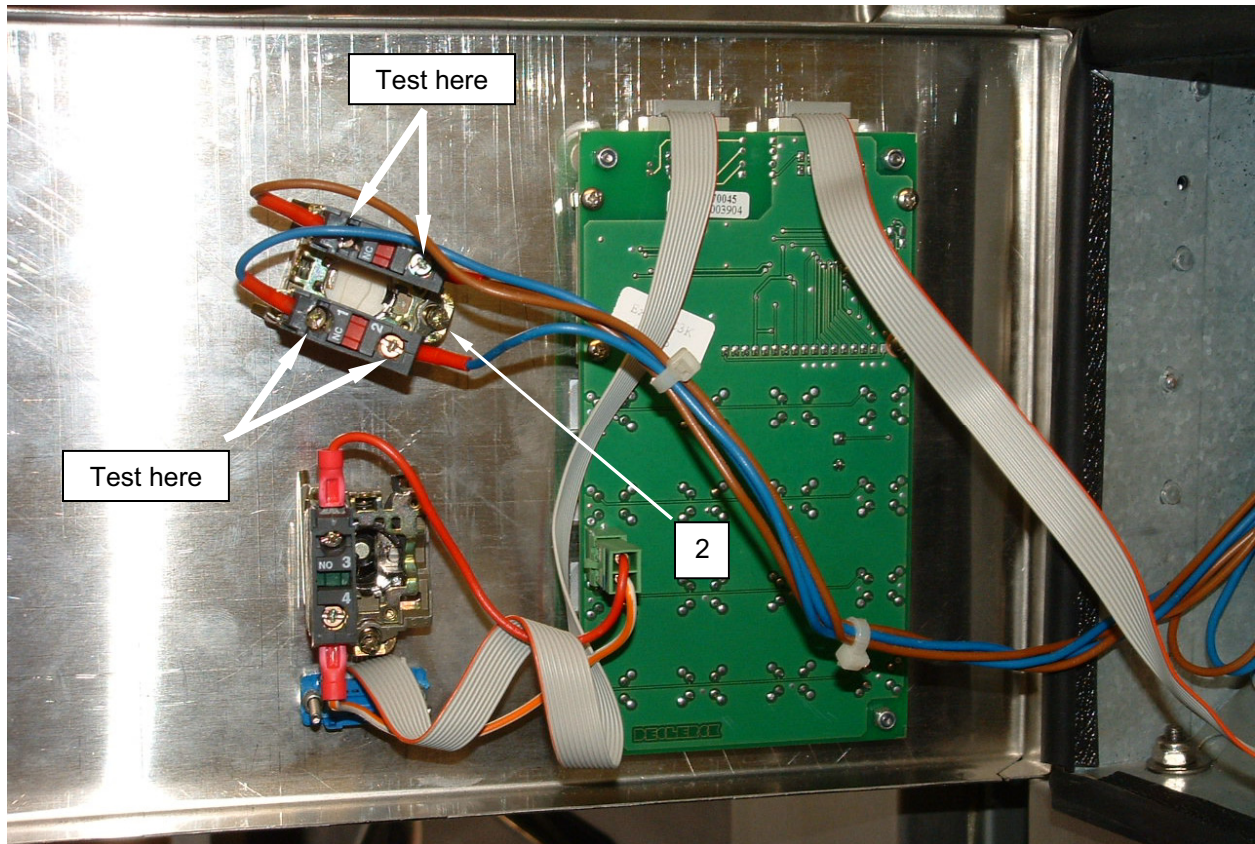

Figure 1. Test the Washer Emergency Stop Switch.
2. Unlock and open control panel (**Figure 1, Item 1**).
3. Tag and disconnect wiring from switch (**Figure 1, Item 2**).
4. Depress switch (**Figure 1, Item 2**) to open circuit, and use an ohmmeter to test for infinite resistance.
5. Reset switch (**Figure 1, Item 2**), and use an ohmmeter to test for 0 ohms resistance.
6. Replace a switch (**Figure 1, Item 2**) that fails either test.
8. Close and lock control panel (**Figure 1, Item 1**).